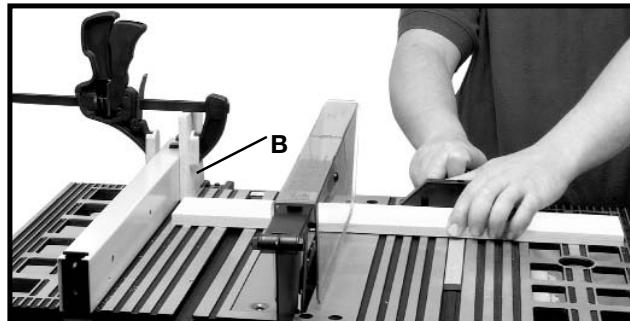

Fig. 39B
When cross-cutting a number of pieces to the same length, a block of wood (B) Fig. 39B can be clamped to the fence and used as a cut-off gauge as shown in Fig. 39B. It is important that this block of wood always be positioned in front of the saw blade as shown. Once the cut-off length is determined, secure the fence and use the miter gauge to feed the work into the cut. This block of wood allows the cut-off piece to move freely along the table surface without binding between the fence and the saw blade, thereby lessening the possibility of kickback and injury to the operator.
CAUTION **WHEN USING THE BLOCK (B) FIG. 39B, AS A CUT-OFF GAUGE , IT IS VERY IMPORTANT THAT THE REAR END OF THE BLOCK BE POSITIONED SO THE WORK PIECE IS CLEAR OF THE BLOCK BEFORE IT CONTACTS THE BLADE.**